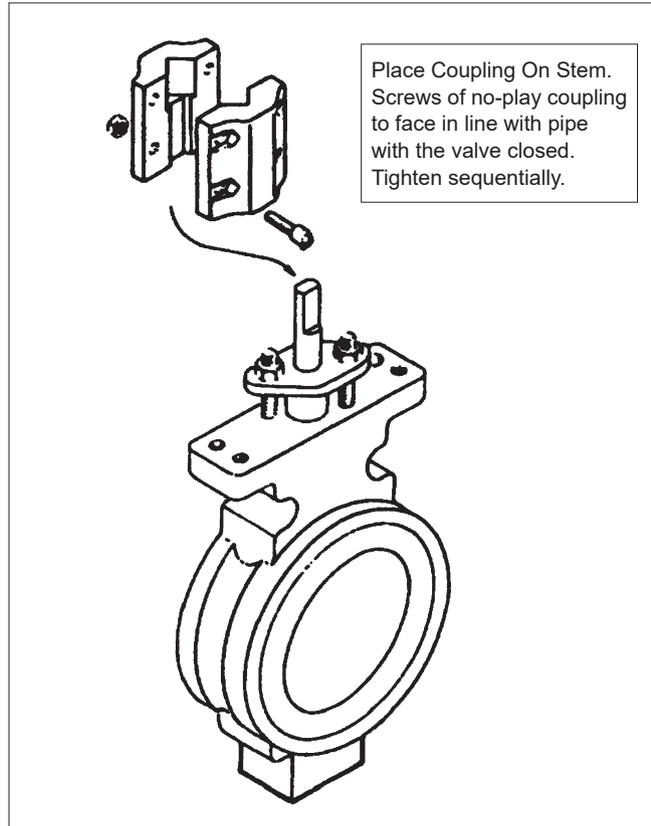

Figure 8.
2. Assemble bracket to actuator as shown in (Figure 8). Tighten to torque listed in (Table 4).